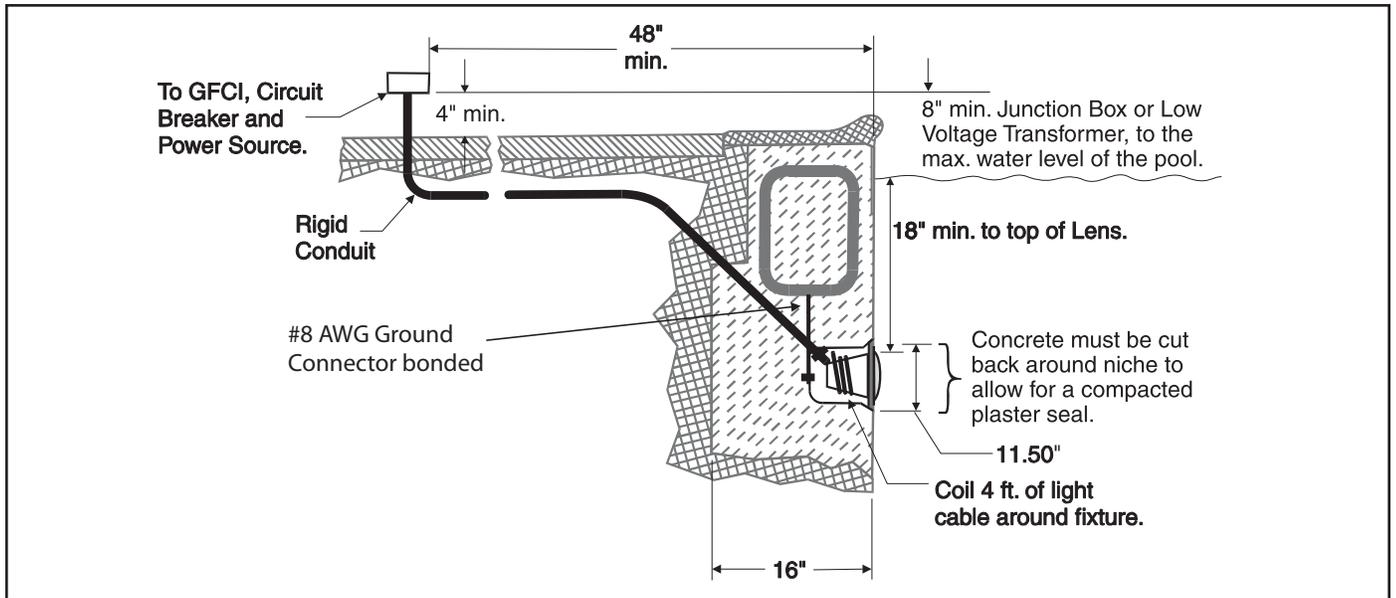

Figure 1. Pool Niche Installation
- b. The Junction Box (or, for 12 volt models, the low voltage transformer) must be located at least eight (8) inches above water level, at least four (4) inches above ground level, and at least four (4) feet from the edge of the pool or spa. See Figure 1.
- c. The light fixture and all metal items within five (5) feet of the pool or spa must be properly electrically bonded to a reliable point of grounding. Seal the wire/lug connection with a listed sealant.
- d. The wet niche must be properly installed so that the top edge of the underwater light's lens is at least 18 inches below (not more than 48 inches below in Canada) the surface of the water in the pool or spa. See Figure 1.
- e. The wet niche must be properly electrically bonded and grounded via the No. 8 AWG ground connector located at the rear of the niche. See Figure 1.